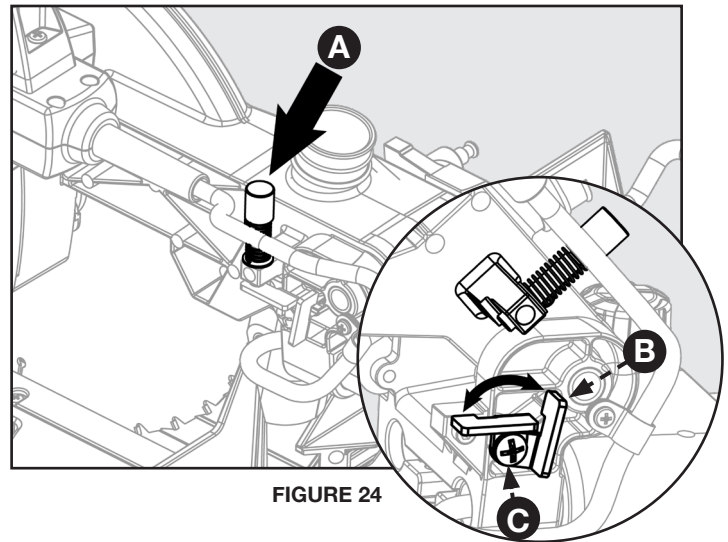

FIGURE 24
**Refer to Figure 24 depth stop at a specific cut depth:** use a Phillips head screwdriver to loosen screw (C) and then rotate the stop bracket (B) counterclockwise into the down position. Make sure to re-tighten screw (C). The cut depth can now be adjusted by turning the depth adjustment screw (A).
**Refer to figure 24 and follow these instructions in order to make a through cut:** use a Phillips head screwdriver to loosen screw (C) and then rotate the stop bracket (B) clockwise into the up position. Make sure to re-tighten screw (C).
**⚠ DANGER:** Always check to make sure screw (C) is tightened before making a cut. Failure to do so may result in injury.